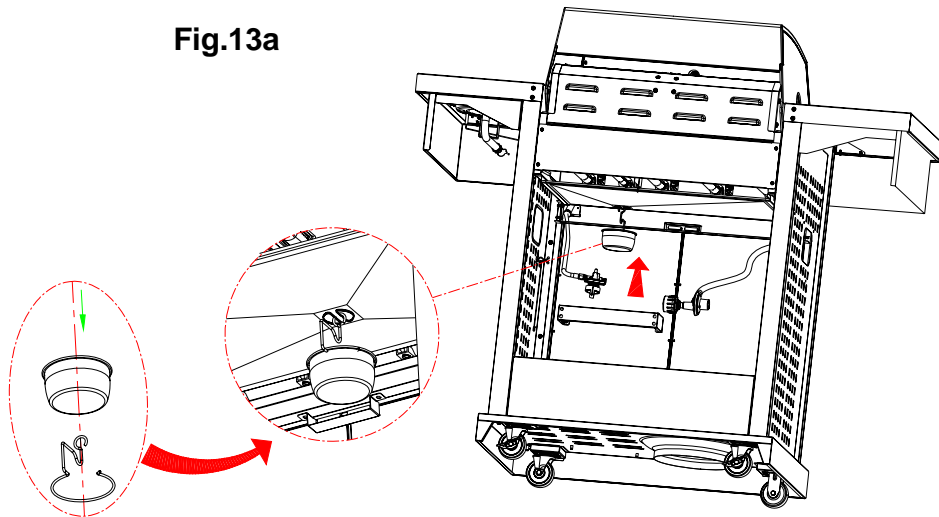

Fig.13b
2. Place grease cup into grease cup clip and hang grease cup clip from bottom of firebox as shown in Fig.13b.